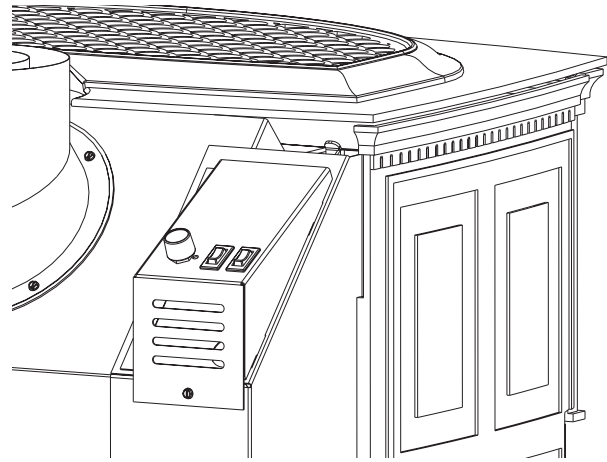

Figure 38. Burner Control Switch Location
1. Once the pilot is lit, burner operation is controlled by the rocker switch located at the left rear corner of the stove. See fig. 38. Use the T-STAT position for the optional thermostat or remote control functions.